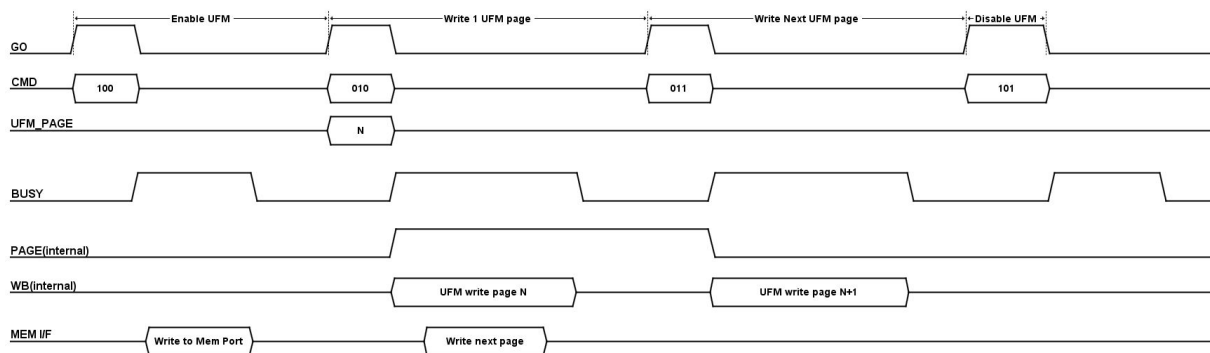

Figure 5.1. Write to UFM Waveform Description
1. Enable UFM access (100) – Check for BUSY signal to be low and issue enable UFM command on the CMD bus and issue a GO. BUSY signal is asserted once a GO is recognized.
2. Write 1 page (010) – Load the DPRAM with one page (16 bytes) of data to be written to the UFM. Check for BUSY signal to be low, issue the Write 1 Page command on the CMD bus, UFM page address on the UFM_PAGE bus and issue a GO. The DPRAM page swap happens once a GO is recognized so that the user can load the next page to be written to the UFM into the DPRAM while the first page is being transferred to the UFM.
3. Write next page (011) – Wait for the previous page to be transferred to the UFM successfully and the BUSY signal goes low. Now issue a write next page command and issue GO. The internal UFM page pointer is auto-incremented.
4. Repeat steps 2 and 3 until all desired pages are written. Figure 5.1. illustrates steps 2 and 3.
5. Disable UFM access (101) – Check for BUSY signal to be low and issue disable UFM command on the CMD bus and issue a GO. BUSY signal is asserted once a GO is recognized.